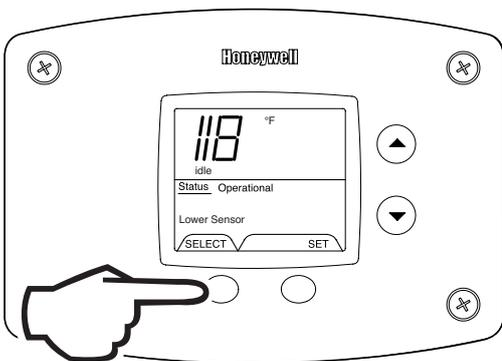

Fig. 58
- For water heaters using two temperature sensors, pressing the 'Select' button again displays the Lower Sensor temperature reading. 'Lower Sensor' will be displayed in the lower left side of the status window of the water heater display (Fig. 58).